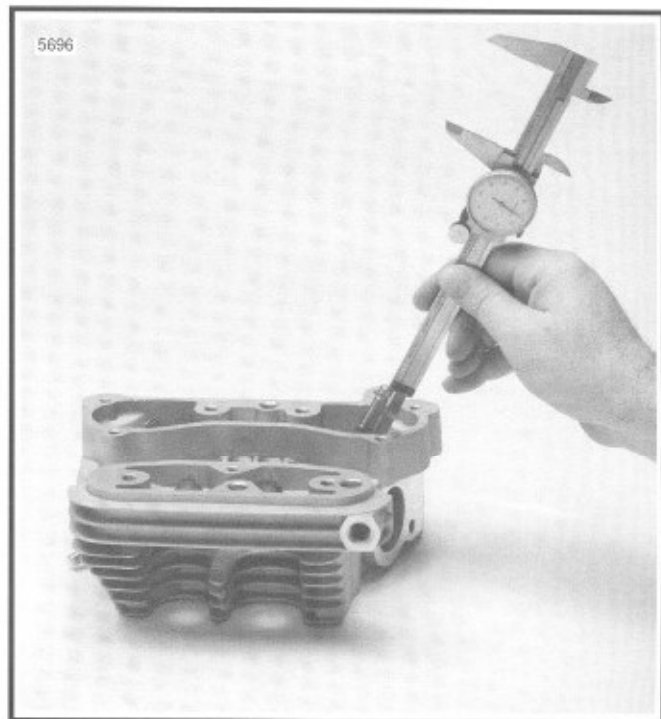

Figure 3-21. Measuring Valve Stem Protrusion
8. See Figure 3-21. Wipe valve seats and valve faces clean. Measure valve stem protrusion. If valve stem protrudes more than 2.034 in. (51.66 mm), valve seat or cylinder head must be replaced. If valve stem protrusion is within the acceptable range, valves and seats are ready for lapping.